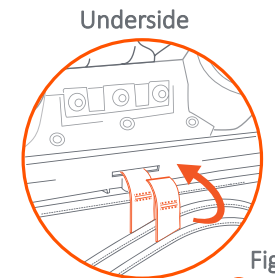

Fig. 5b
(2) Flip tray over with slots facing towards the seat and canopy (Fig. 5b).
**NOTE:** First thread the middle canopy strap through the slot. Second insert the middle seat strap through the slot (Fig. 5b).